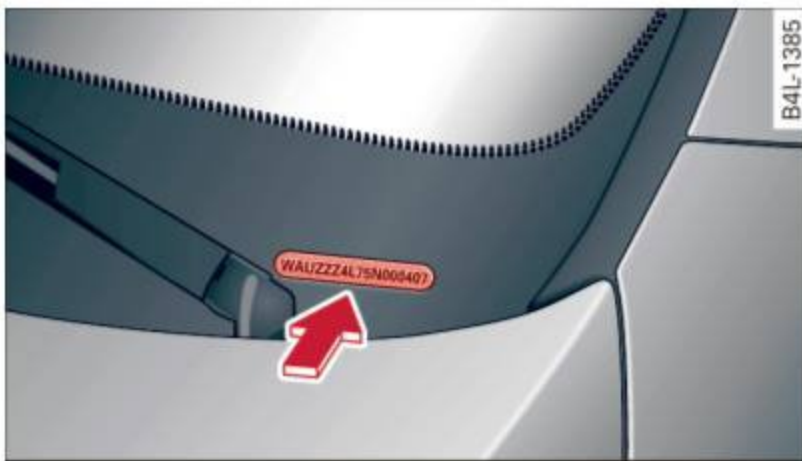

Fig. 196 Vehicle Identification Number (VIN) plate: location on driver's side dash panel
- under the windshield on the driver's side ⇒ *fig. 196*.